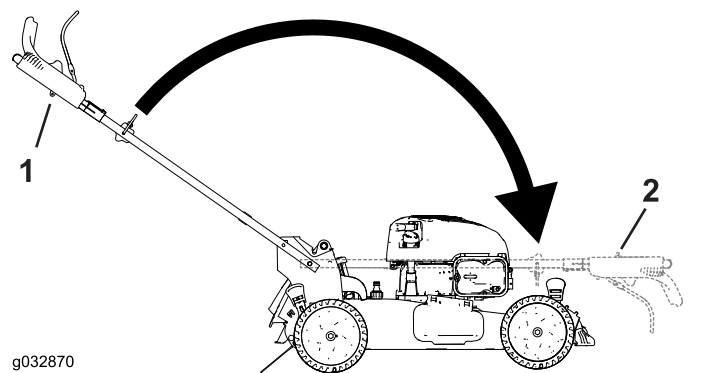

Figure 29
3. Fold the handle by rotating it forward (Figure 29).